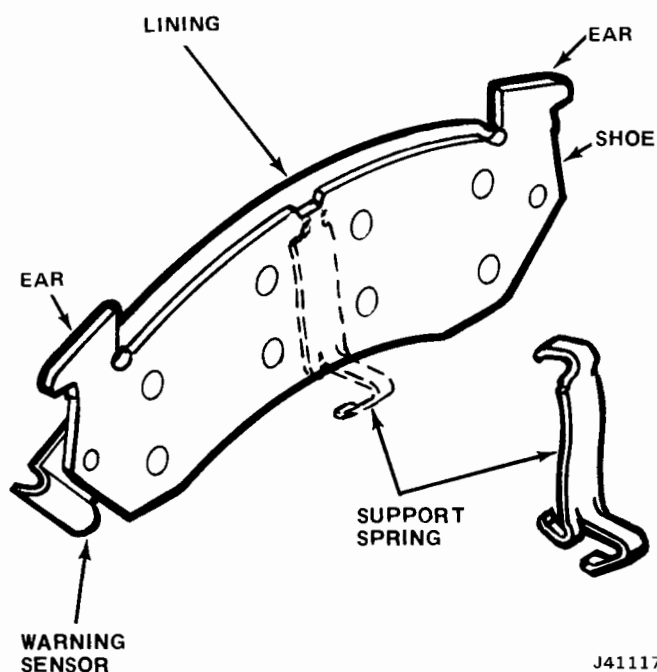

Fig. 9-31 Support Spring Installation
(11) Install sleeves in inboard mounting ears. Position sleeves so that sleeve end facing shoe and lining is flush with machined surface of mounting ear.
(12) Install support spring on inboard shoe. Place single tang end of spring over notch in shoe (fig. 9-31).